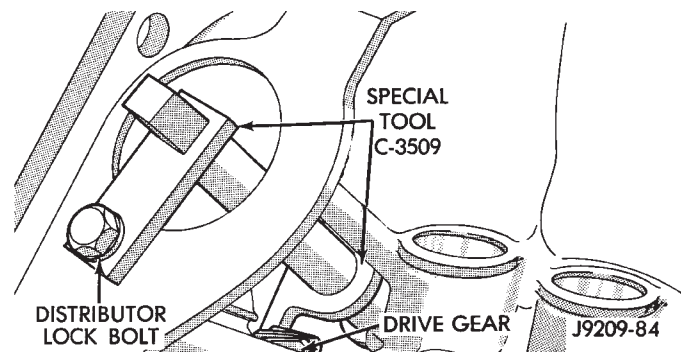

Fig. 30 Camshaft Holding Tool C-3509 (Installed Position)
- (2) Install Camshaft Gear Installer Tool C-3509 with tongue back of distributor drive gear (Fig. 30).